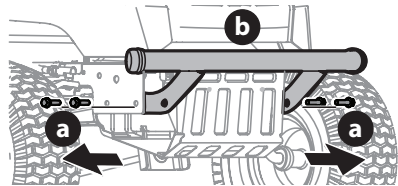

Figure 56
1. Remove the four hex screws (a) securing the front bumper in place (Figure 56).